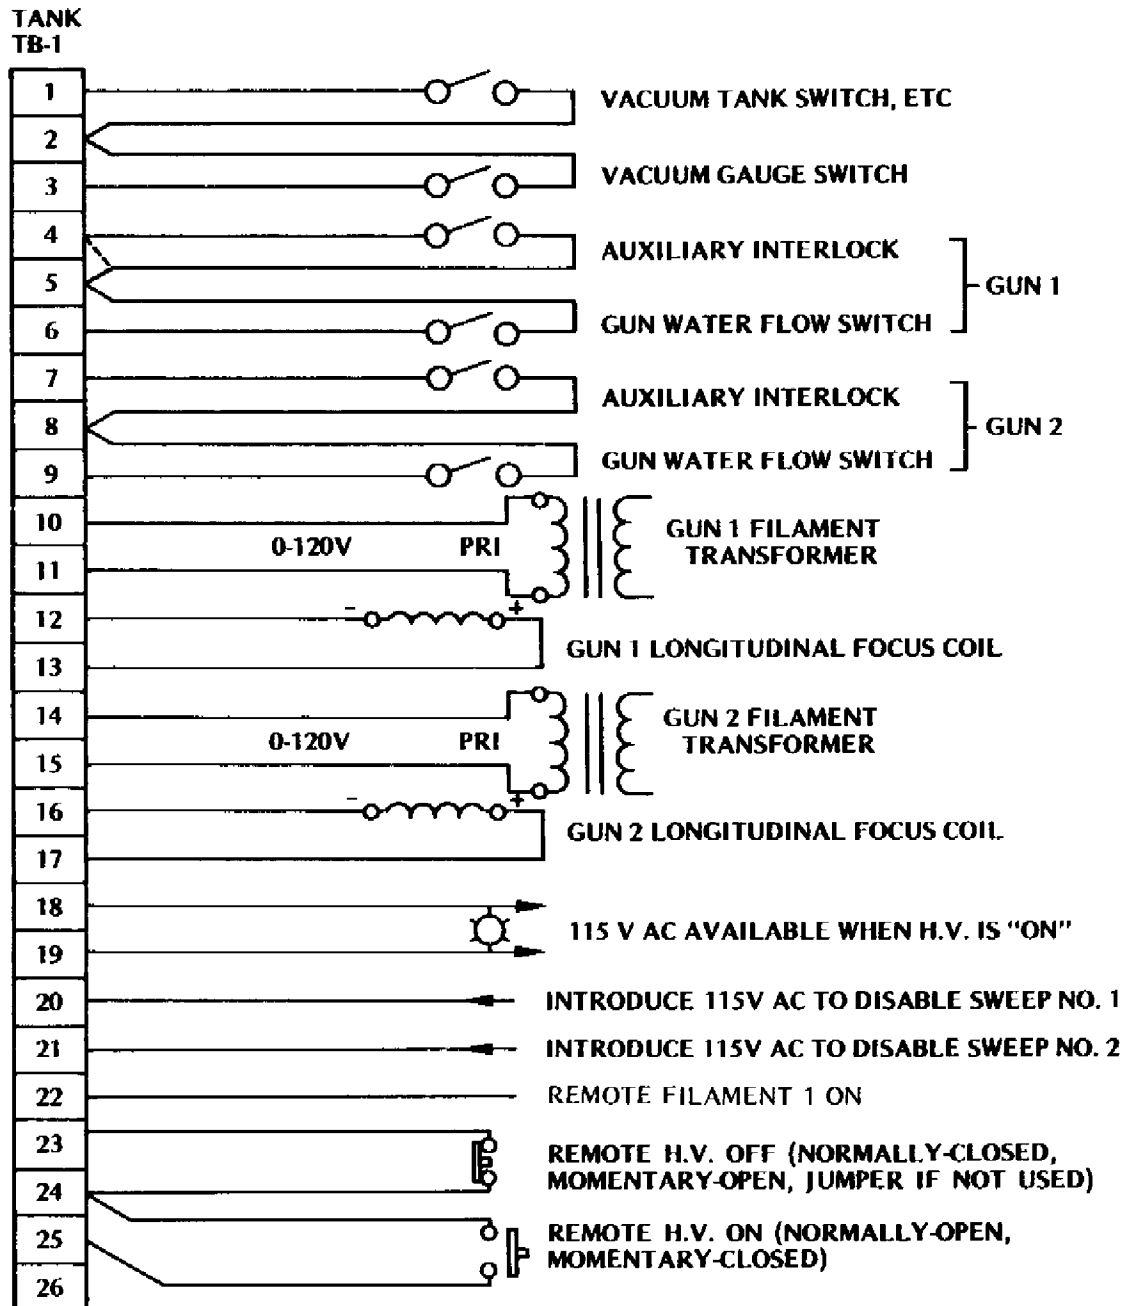

Figure 2-4. CV-8 A and B interlock terminal strip connection diagram
2.7 INTERLOCK CABLE (Figure 2-4)